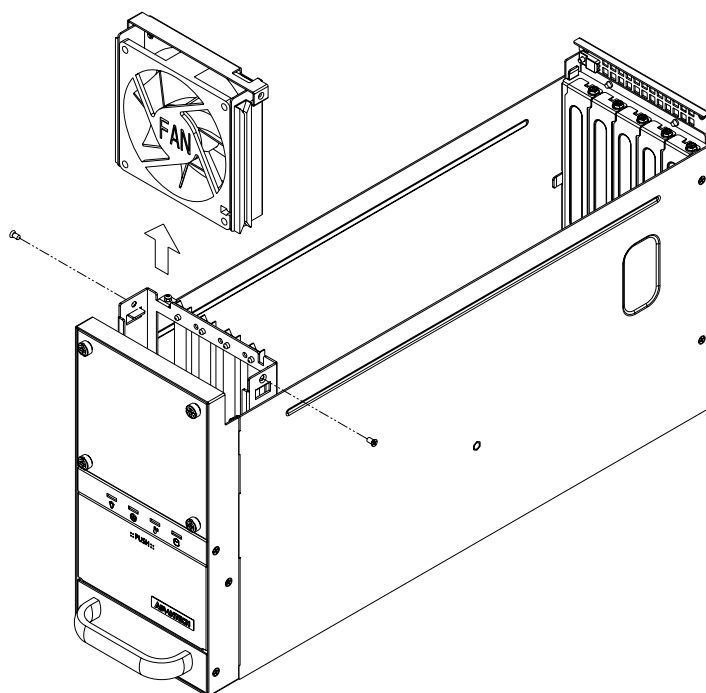

Figure 3.3 Replacing the cooling fan
3. Loose two screws on top of the fan unit and then gently pull it out (Figure 3.3).